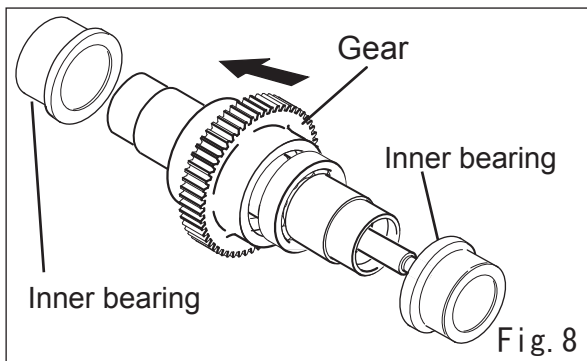

Fig. 8
- g. Withdraw inner bearing by using the pulley puller and push out the gear (driven shaft side) (19) to one side and pull it out. If the gear is hard to remove, use the press rather than tapping on it with hammer. (Fig. 8)